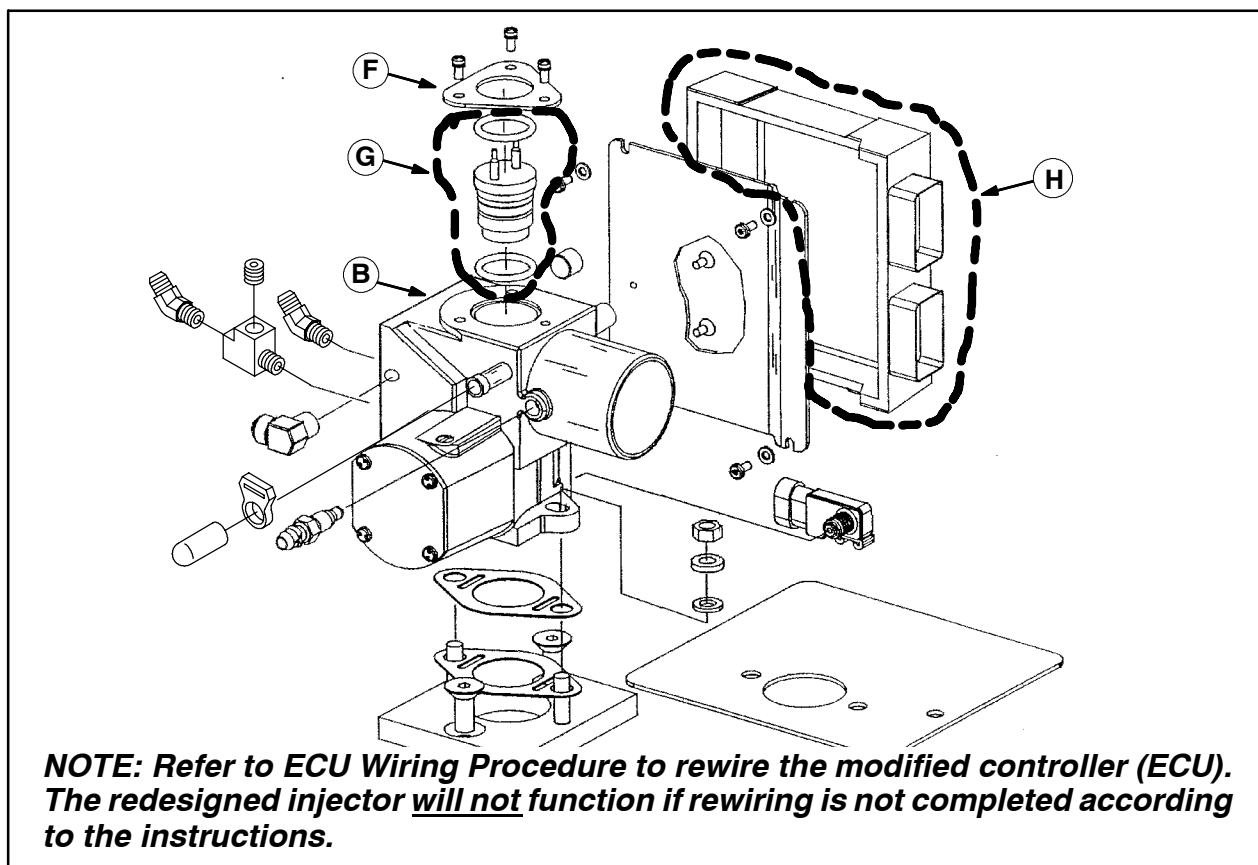

FIG. 9
4. Remove the injector retaining plate (F) from the LPG throttle housing assembly. Refer to Fig. 9.
5. Remove the old LPG fuel injector (G) from the LPG throttle housing assembly (B). Be sure to remove both o-rings from inside the LPG throttle housing assembly when removing the injector. Refer to Fig. 9.
6. Install the new LPG fuel injector (12) into the LPG throttle housing assembly (B). Be sure the o-rings are seated inside the LPG throttle housing assembly. Refer to Fig. 9.
7. Reinstall the injector retaining plate (F) onto the LPG throttle housing assembly (B). Be sure the injector retaining plate is not bent before reinstalling it onto the LPG throttle housing assembly. Flip retaining plate over if it is bent. Refer to Fig. 9.
9. Carefully disconnect both connectors from the ECU controller (H). Refer to Fig. 9.
10. Remove the ECU controller (H) from the LPG throttle housing assembly (B). Refer to Fig. 9.
11. Attach the new ECU controller (11) to the LPG throttle housing assembly (B). Refer to Fig. 9.